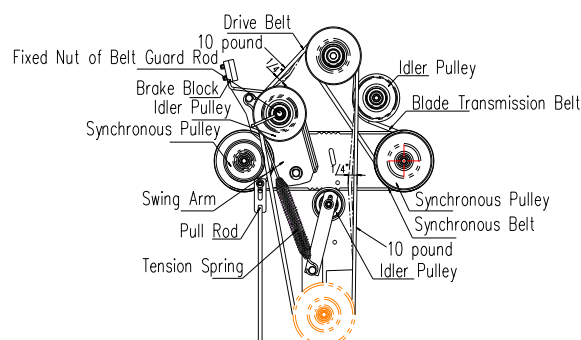

FIG 9
- Remove the belt cover. Adjust the mower deck belt using a belt tension gauge. Engage the blade drive lever, tension the mower belt, and adjust the belt so that the belt moves 1/4" with 10 pounds of pressure. Adjust the tension by tightening or loosening the nut M10. (See FIG 9).
- Engage the blade drive lever, loosen the nut, tension the slot forward. Make sure the belt tightening is suitable. (Give the belt tension side the force of 1-2KG, the belt deflection is 7-9mm/10 lbs pull with 1/2" deflection.) (See FIG 9)
- Remove blade transmission belt according to reference method 5.2.2, then loosen nut in the idler pulley, take the synchronous belt from the axis pin, then install the new synchronous belt in reverse order. (See FIG9)
- Remove the belt cover, turn the shift arm, move shift arm away from pulley, remove bolts and nuts, replace with new brake pad, install bolts and nuts, and make blade brake pad aim at the belt pulley groove center, then screw down the nut. Test blade brake system; blade brake pad can make rapid rotary blades stop running in 3 seconds. (See FIG 9)